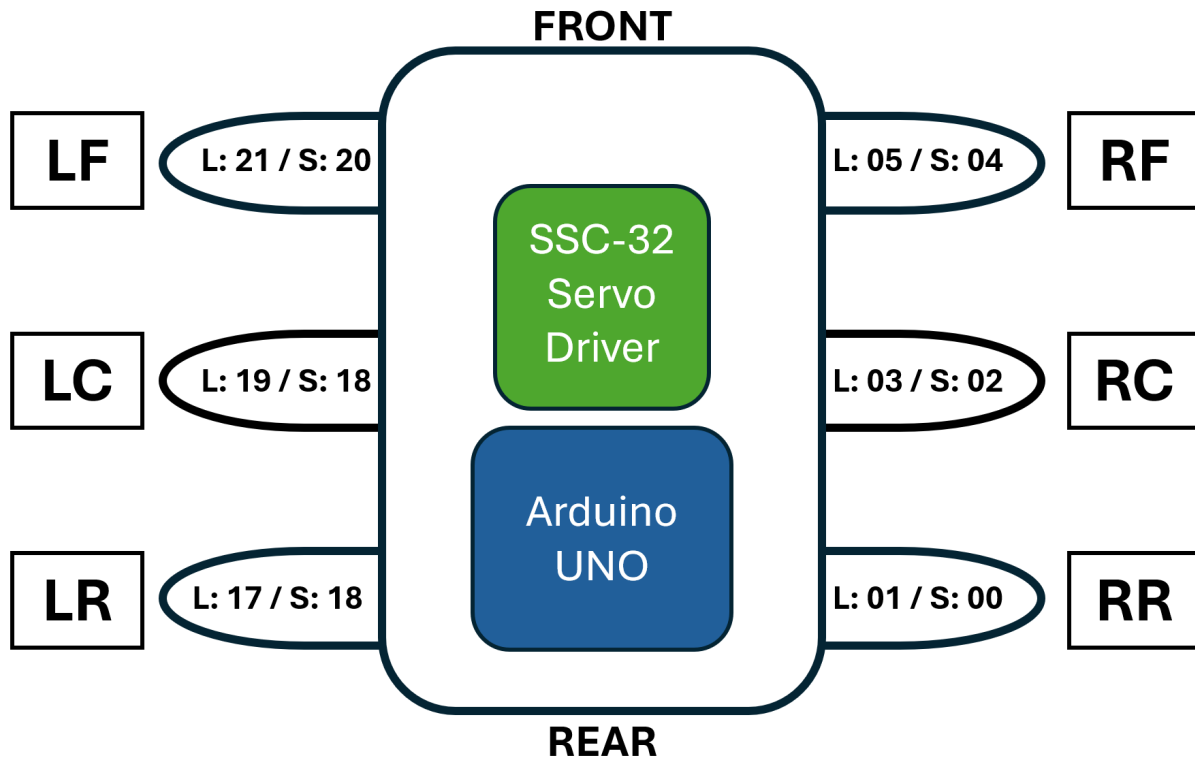

Figure 2: Schematic of Naming Convention and Servo Pin-Outs for the Hexapod
In the below figures and tables you will see the positions of the individual legs for each step of all three of the gaits. Note that if a step converges in say three steps, each leg will have three possible positions that define the entire range of its motion. Additionally each step is best executed if decomposed into three sub-steps that sequentially lift the required legs (lift), move all legs (stride), and then place back down the lifted legs (drop). For each of the legs shown in Figure 2 there are two numbers listed either labeled with *L* or *S*. The number listed beside the *L* corresponds to the servo number that will enable that leg to perform a lift. The number listed beside the *S* corresponds to the number that will enable that leg to perform a stride. The tables provide the gait pattern where a 1 represents the legs that are NOT touching the ground and a 0 represents the legs that are touching the ground.
- The following defines the pin number to which the servos are connected on the SSC-32 board, which should match with the schematic shown in Figure 2.